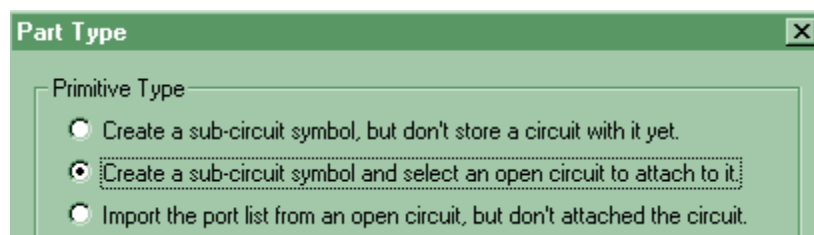

Figure 10-16
- Now to create the subcircuit go to File > New> Device Symbol, this will open the Device Editor window. In the Options menu in the *DevEditor* window select the “Subcircuit/Part Type” command. Select the second option "Create a sub-circuit symbol and select an open circuit to attach to it". When you click on this option, a box will appear containing a list of all open circuits. Select the one you just created. See figure 10-16.